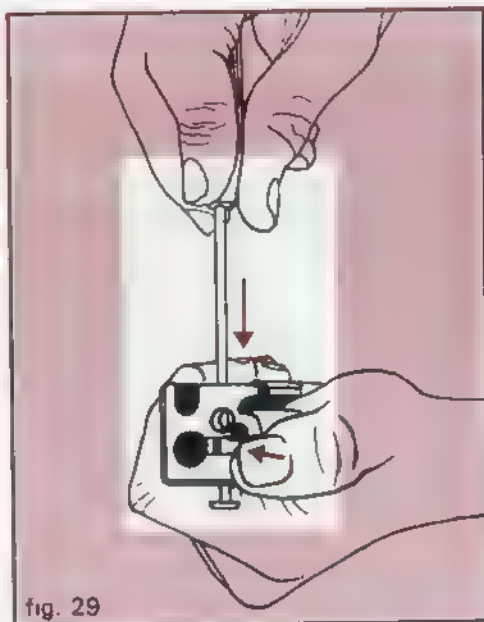

fig. 29
1. Using a suitable drift pin ($1/8''$ to $5/32''$ dia.) push out extractor retaining pin from its shank end, holding finger over blocking latch to keep spring from jumping out (fig 29), then carefully remove blocking latch with spring